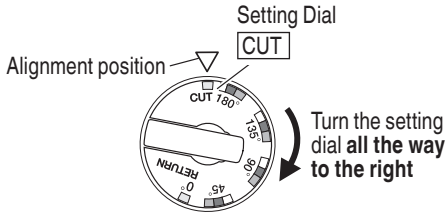

Fig. 34
- (1) Position the setting dial in the “CUT” position (Fig. 34)